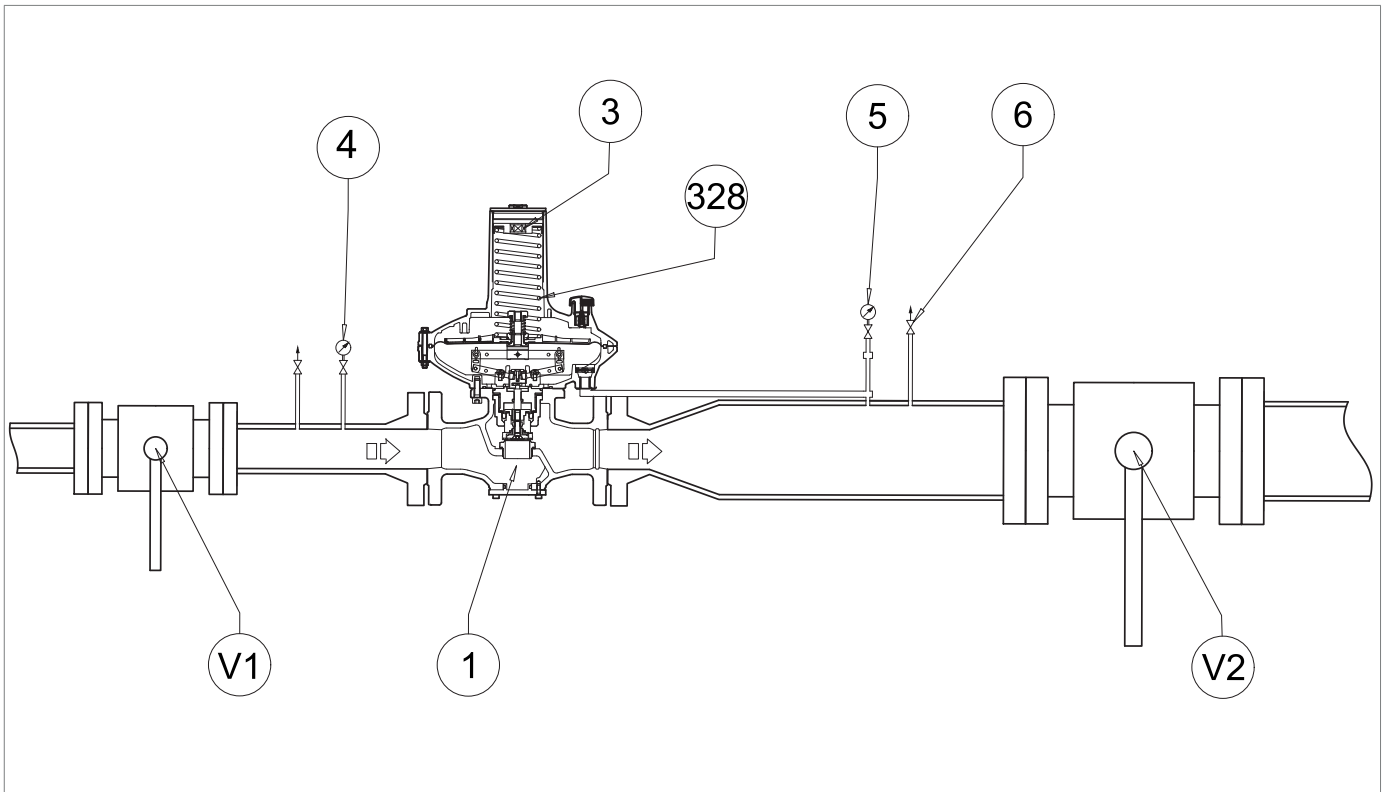
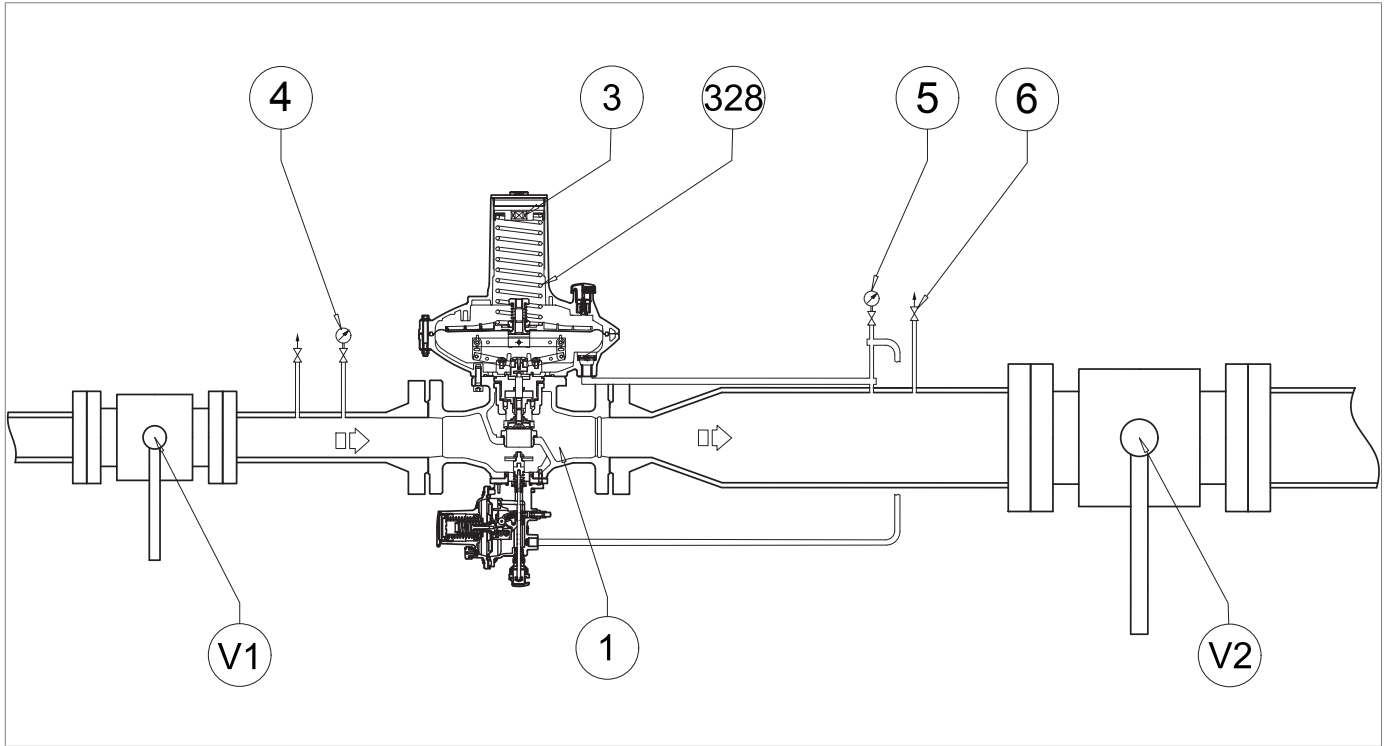
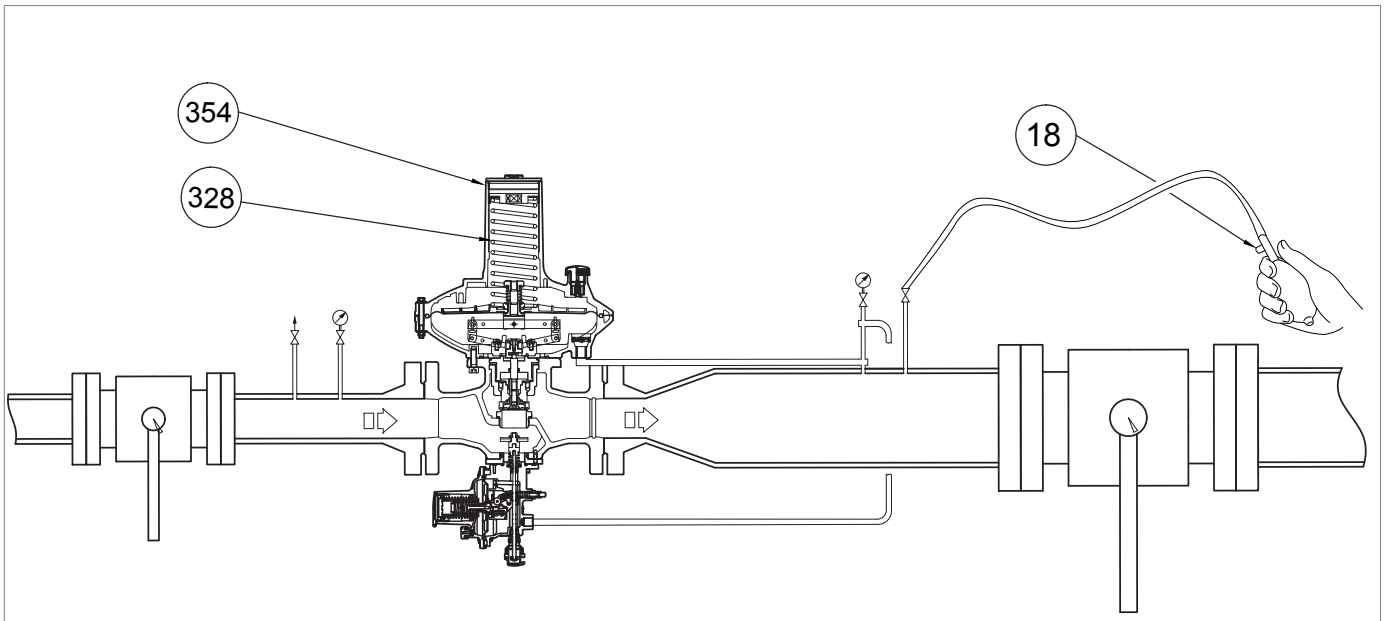

Fig. 8.16. Commissioning the DIVAL 600 regulator
Fig. 8.19. Commissioning of the DIVAL 600 regulator with LA slam-shut valve
Fig. 8.21. Pressurising with external source for incorporated LA slam-shut valve
For the following procedure, please refer to Figure 8.19 in par. "8.7.1 - Internal tightness check of LA slam-shut valve":
1	<p>Increase the downstream pressure to the tripping value of the slam-shut valve, connecting an external pressure source to the bleed cock (fig. 8.16, ref. 6) placed on the downstream pipe, making sure to open an additional bleed cock (fig. 8.21, ref. 18).</p> <div style="border: 1px solid black; padding: 5px;"> <p>! NOTICE!</p> <p>Check the pressure referring to the downstream pressure gauge (fig. 8.16, ref. 5).</p> <p>If the slam-shut valve:</p> <ul style="list-style-type: none"> <li>• trips before the expected pressure value: screw in (clockwise) the adjustment ring nut (13) so as to further compress the spring (11);</li> <li>• does not trip at the expected pressure value: unscrew (anti-clockwise) the adjustment ring nut (13) so as to relieve the spring (11).</li> </ul> </div>
3	Close the additional bleed cock (fig. 8.21, ref. 18).
3	<p>If necessary, remove the closing cap (fig. 8.21, ref. 354) together with the adjustment ring nut and remove the regulation spring (fig. 8.21, ref. 328).</p> <div style="border: 1px solid black; padding: 5px;"> <p>! NOTICE!</p> <p>Check the tripping pressure value of the slam-shut valve indicated on the downstream pressure gauge (fig. 8.19, ref. 5).</p> </div>
5	<p>After having checked that the slam-shut valve trips at the preset value, proceed as follows:</p> <ol style="list-style-type: none"> <li>Close the air vent valve (fig. 8.16, ref. 6)</li> <li>Position the regulation spring (fig. 8.21, ref. 328), the closing cap (fig. 8.21, ref. 354), and adjustment ring nut (fig. 8.16, ref. 3)</li> <li>Slowly open the upstream shut-off valve (V1) until the downstream pressure value (Pd) reaches the calibration value of the regulator, referring to the downstream pressure gauge (fig. 8.16, ref. 5)</li> <li>Close the upstream shut-off valve (V1)</li> <li>Slowly and partially open the air vent valve (fig. 8.16, ref. 6) to decrease the downstream pressure referring to the downstream pressure gauge (fig. 8.16, ref. 5) until it reaches the minimum pressure tripping value</li> <li>Check the minimum pressure spring for proper calibration by repeating steps 2-3-4 at least three times</li> <li>Calibrate the main regulator referring to par. "8.5 - Regulator commissioning procedure"</li> </ol>